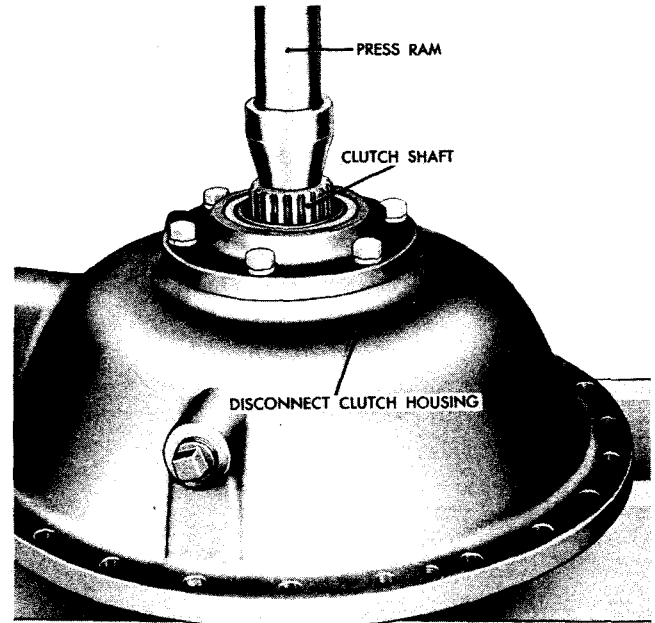
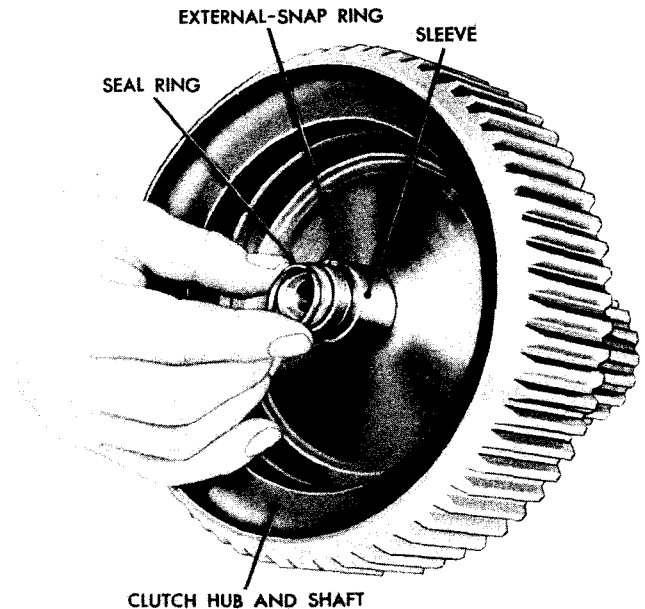

Fig IX-13. Removing clutch shaft
Fig IX-14. Removing (or installing) input-shaft seal ring
(5) Press the clutch shaft out of the bearing (fig. IX-13).
(6) Using a 3/4-inch wrench, remove the six bolts and lock washers. Remove the bearing retainer, gasket, and the ball bearing.
(7) The oil seal is ordinarily not removed from the bearing retainer unless replacement is necessary. When necessary, press the oil seal out of retainer and press a new seal into retainer with spring-loaded side toward the ball bearing.
(8) Remove the input shaft seal ring (fig. IX-14).
(9) Remove the external-snap ring and sleeve (fig. IX-14).
(3) Install the external-snap ring and sleeve (fig. IX-14).
(4) Install the input-shaft seal ring (fig. IX-14).